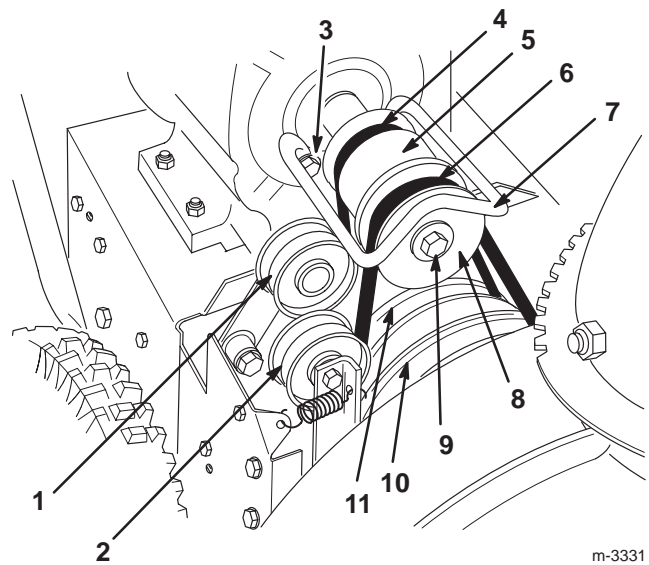

Figure 31
6. Remove two bolts, two washers, and two lock washers that secure the belt guide (Fig. 31).
7. Remove the engine crankshaft bolt, lock washer, and washer (Fig. 31).
8. Separate and remove the engine pulley sheave (Fig. 31).
10. Remove the engine pulley (Fig. 31).
11. Remove the traction drive belt from the traction pulley and the engine crankshaft (Fig. 31).
12. Pull the traction idler pulley outward and install a new traction drive belt (Fig. 31).
14. Pull the idler pulley outward and loop the auger/impeller drive belt in front of the engine pulley, ensuring that the belt is on the inside of the idler pulley (Fig. 31).
6. Remove the two bolts, two washers, and two lock washers that secure the belt guide (Fig. 31).
9. Remove the auger/impeller drive belt (Fig. 31).
10. Pull the idler pulley outward and install a new belt around the large auger/impeller pulley (Fig. 31).
11. Loop the belt in front of the engine pulley, and ensure that the belt is on the inside of the idler pulley (Fig. 31).